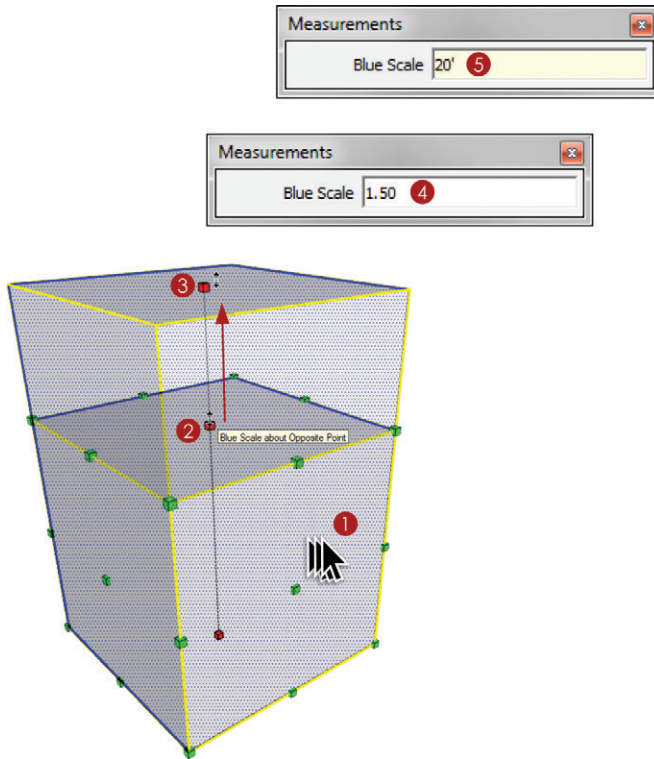

Figure 4.42 The Scale tool distorts entities based on a scale factor or set dimension.
5. You can also type a precise dimension into the Measurements dialog—for example, **20'**, then press Enter. Be sure to specify feet or inches because the Scale Tool defaults to a scale value rather than the models default units (Figure 4.42).